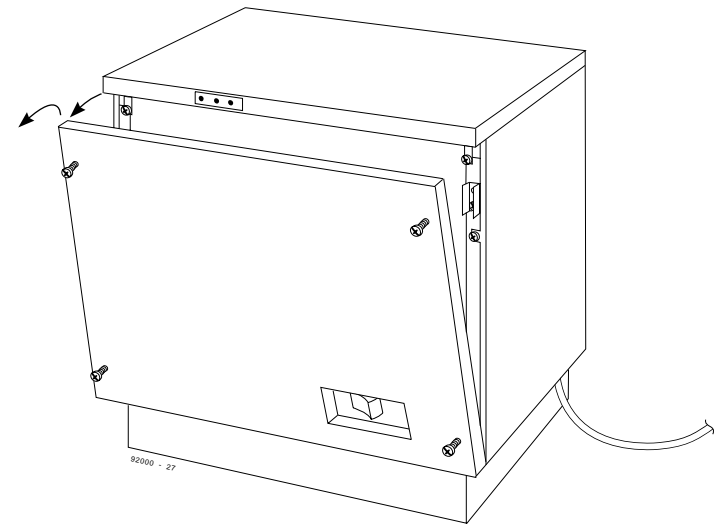

Figure 1-1 REMOVING THE FRONT COVER
### Removing the Front Cover (Figure 1-1)
4. Remove the top, front, and back covers from the Main Cabinet. Refer back to Figures 1-1, 1-2, 1-3, and 1-4 if necessary.